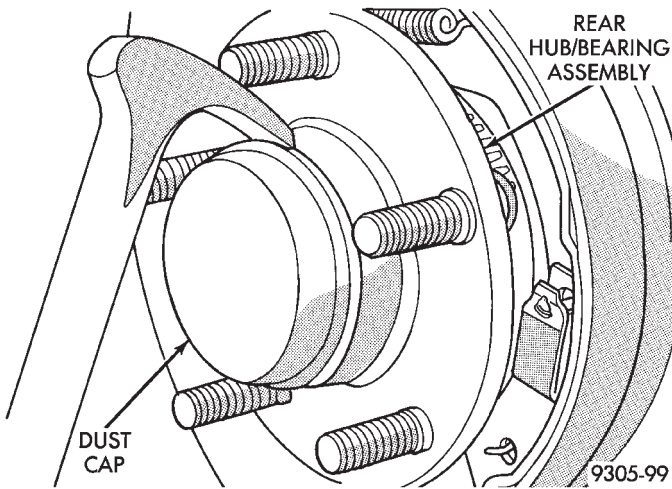
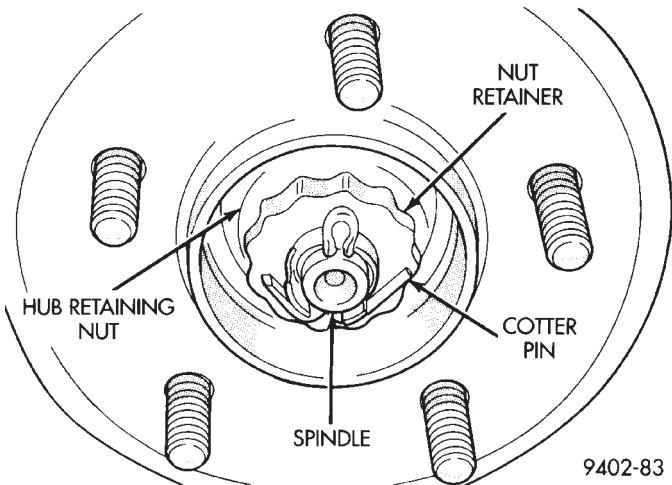

Fig. 49 Rear Hub And Bearing Dust Cap
Fig. 50 Hub And Bearing Retaining Nut
(5) Remove rear hub and bearing assembly dust cap (Fig. 49).
(6) Remove rear hub and bearing assembly cotter pin, nut retainer and hub/bearing retaining nut and washer (Fig. 50). Then remove rear hub and bearing assembly from spindle.
(1) Install rear hub and bearing assembly on rear spindle. Install hub and bearing assembly washer and retaining nut (Fig. 50). Tighten the hub and bearing retaining nut to a torque of 168 N·m (124 ft. lbs.).
(2) Install wave washer, nut retainer and cotter pin on spindle.
(3) Install rear hub and bearing dust cap (Fig. 49).
(4) Install rear brake rotor on hub.
(5) Install rear disc brake caliper onto the adapter. Install the caliper assembly to adapter guide pin bolts and torque to 22 N·m (17 ft. lbs.).
(6) Install the wheel and tire assembly. Tighten the wheel mounting stud nuts in proper sequence until all nuts are torqued to half specification. Then repeat the tightening sequence to the full specified torque of 129 N·m (95 ft. lbs.).